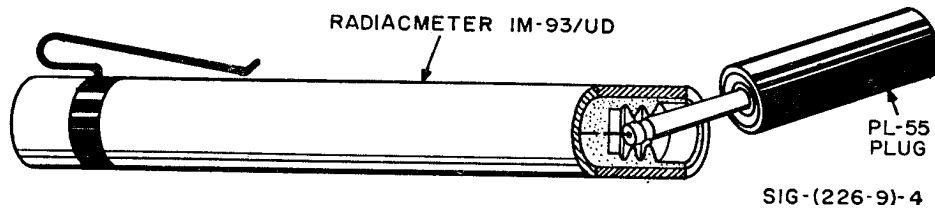

Figure 4. Applying plug of emergency charger to the charging pin of dosimeter.
a. Insert the Plug PL-55 into the charging end of the dosimeter so as to engage the charging pin. Cock the plug at an angle so that the side of the plug contacts the side of the dosimeter which will insure a complete electrical connection (fig. 4). Use only slight pressure to depress the dosimeter charging pin; hold for about a second, which should be sufficient to put a charge on the dosimeter. Be especially careful not to use radial force that might bend or break the dosimeter charging pin. It should be emphasized that charging the dosimeter by this emergency procedure is a delicate operation and extreme care should be used.